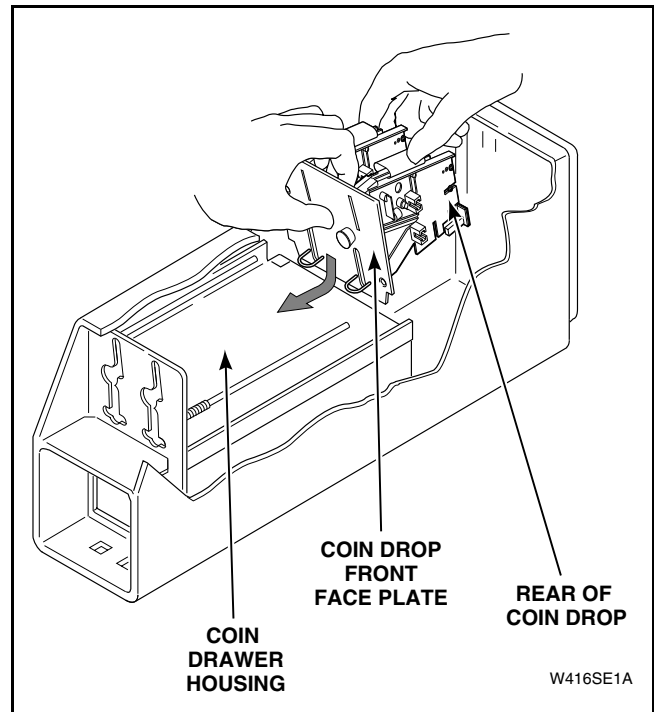

Figure 23
(5) Lift up front face plate of coin drop with one hand, while gently pushing down rear of drop with other hand, so the bottom of the drop's front face plate clears coin drawer housing. Refer to *Figure 23*.